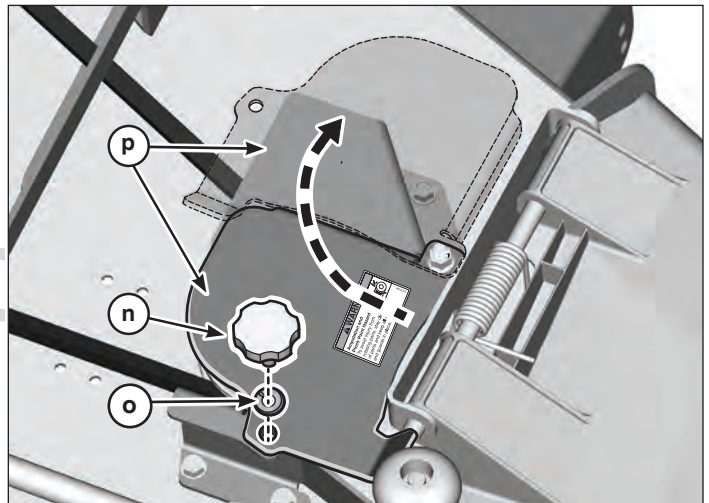

Figure 33
5. Remove and retain knob (n, Figure 33) and lockwasher (o). Rotate cover (p).